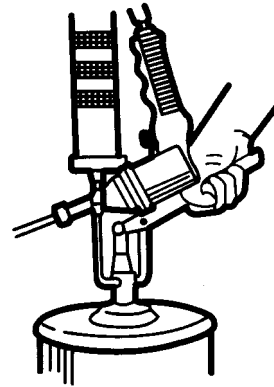

Fig. 2:
2. Loading with a Filler Pump (Figure 2):